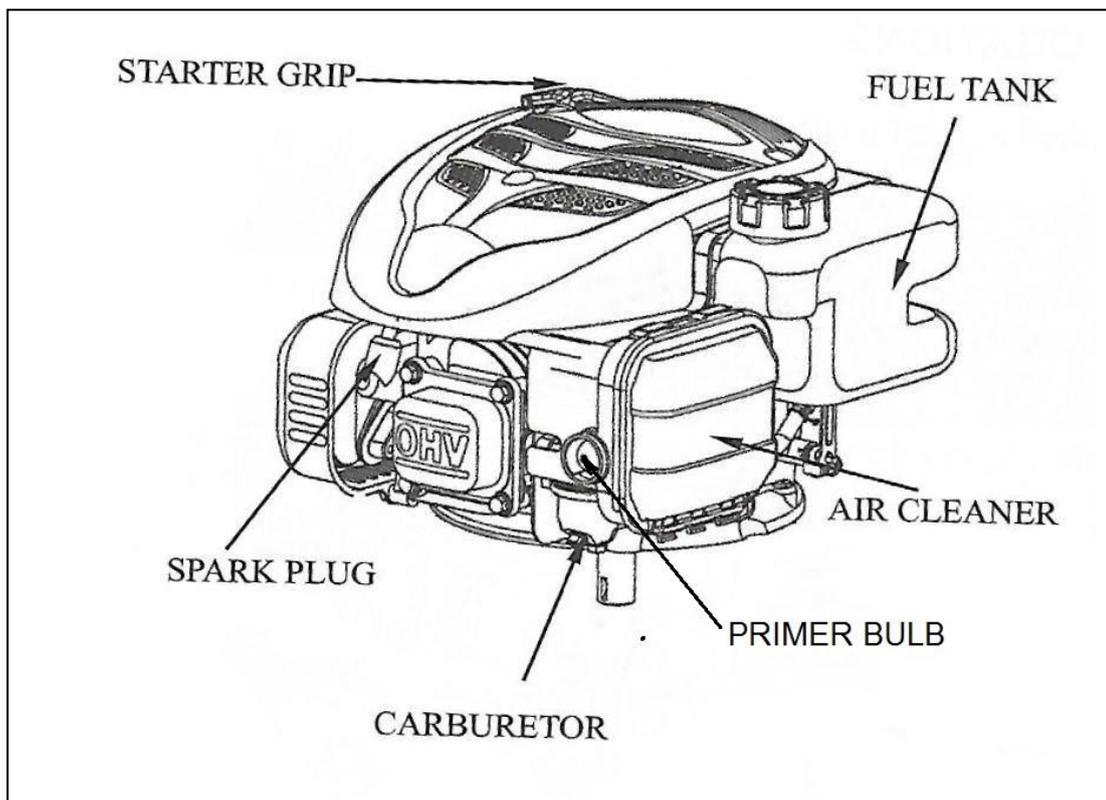

Fig. 11
This product is equipped with a **4-stroke engine** which requires 600 ml of engine oil to be filled in the separate oil sump. Do not start the lawnmower before ensuring it has been filled with the right amount of correct grade oil. Do not over-fill. Check engine oil level before starting engine (Fig.11 No.3). Use SAE 30 engine oil. Use clean, fresh regular lead-free petrol with a minimum of 87 Octane rating. Always refuel the lawnmower outside in a well ventilated environment. Do not smoke! Always stop the engine and allow it to cool for 2 minutes before refuelling. Do not light any flames while refuelling. Wipe off any fuel that may have spilled. Start the engine away from the place where it was refuelled. Ensure the tank cap is tightened properly.
2. Push primer bulb 5 times to prime.(Fig. 11)
Spark plug: Check every 12 months or if starting problems are experienced. When the engine is cold, remove the lead & cap (Fig.11) and unscrew the spark plug with a suitable spark plug socket. If the electrodes are excessively soiled or worn then replace with an equivalent new spark plug (e.g. Torch F7RTC OR Equivalents). Replace spark plug and screw in by hand to avoid stripping of thread, then tighten with socket.